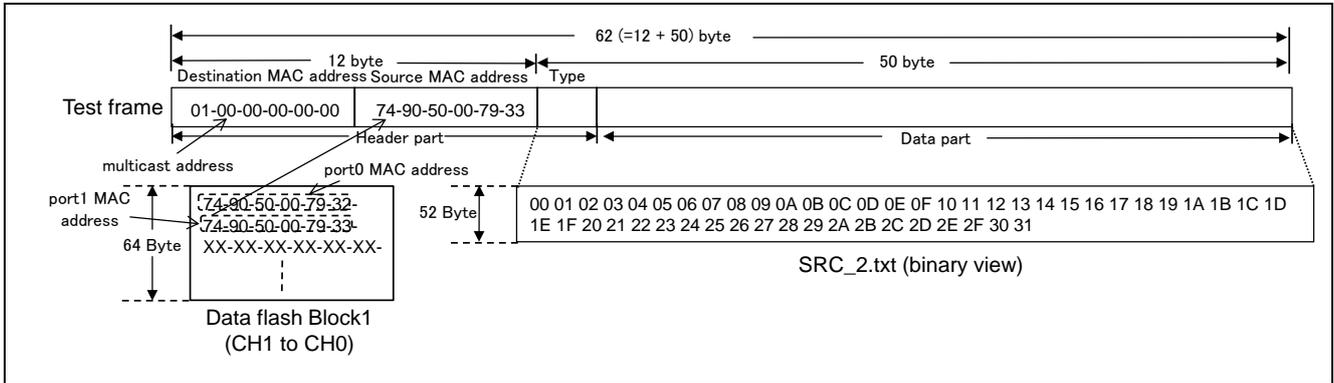

Figure 3.3 Frame format
Figure 3.3 explains the test frame format in relation to the Mac addresses written in the data flash, the test data refer to the SRC_2.txt when the direction of frame transfer is from CH1 to CH0, and the multicast address selected by index 0 (MUL_IDX = 0). The port0 MAC address of the RSK board2 is written beginning 6 byte in the Block1 whose address is “0x0010_0040 – 0x0010_0045” and the port1 MAC address of the RSK board2 is written next 6 byte in the Block1 whose address is “0x0010_0046 – 0x0010_004B”.
(1) Set multicast frame filter function of the CH1.
(2) Read the test data transferred as the test frame from the USB memory via USB Host.
(3) Load MAC addresses from the data flash.
(4) Create the test frame showed by the Figure 3.3.
(5) Transmit the test frame from port1.
(6) Cancel or receive the test frame depend on the FFLTR setting.
(7) If the test frame received, relay and transmit it to CH0.
(8) Receive the relayed frame.
(9) Measure the frame transfer interval using the MTU3.
(10) Write the reception data transferred as the frame to the USB memory.
(11) Repeat the specified times of the USB read, frame transfer with interval measurement, and USB write. Thereafter, write the result of the frame transfer intervals to the USB memory.
(12) The MAC addresses in the data flash are erased if “FORCE_ERASE_PRM” option is defined.